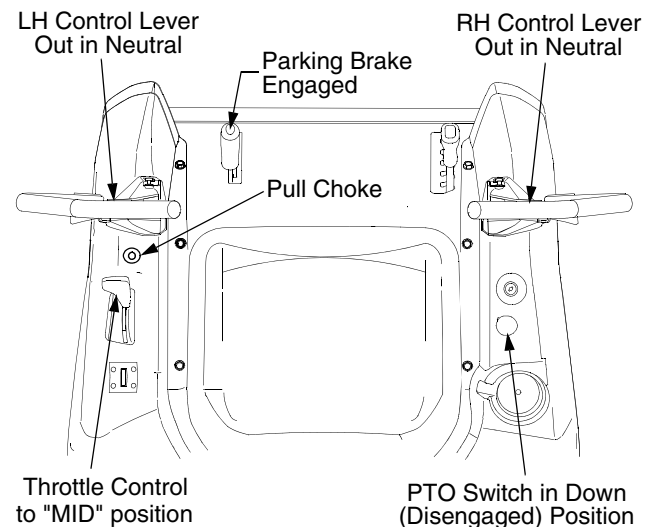

Figure 10
- Move the RH and LH drive control levers fully outward in the neutral position. Refer to Figure 10.
- Engage the parking brake. Refer to Figure 10.
- Make certain the PTO switch is in the disengaged (down) position. Refer to Figure 10.